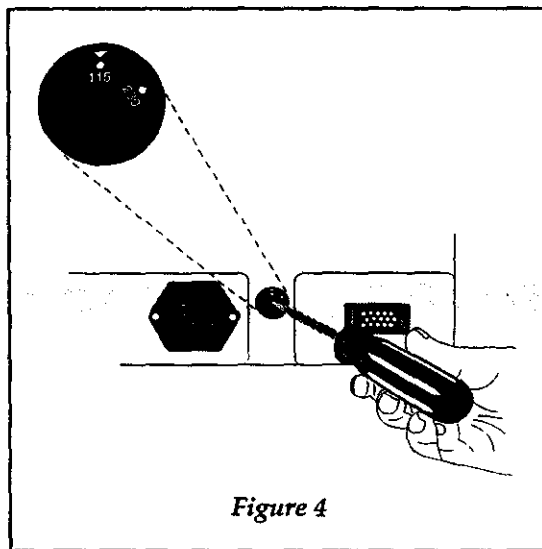

Figure 4
Step 4 Make sure the voltage selector switch on the back of the unit is set correctly. See Figure 4.